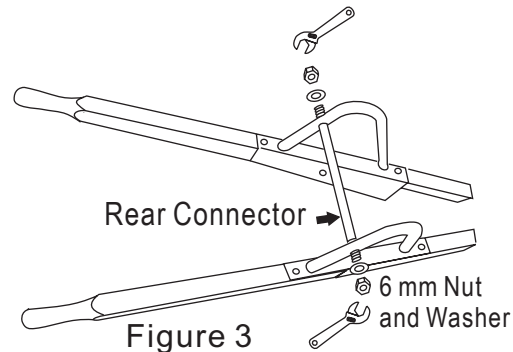

Figure 3
Step 2: Attach the Rear Connector onto the Handles and Supporter, using TWO 6mm Nut & Washer Set. Secure by wrench. As shown at Figure 3.